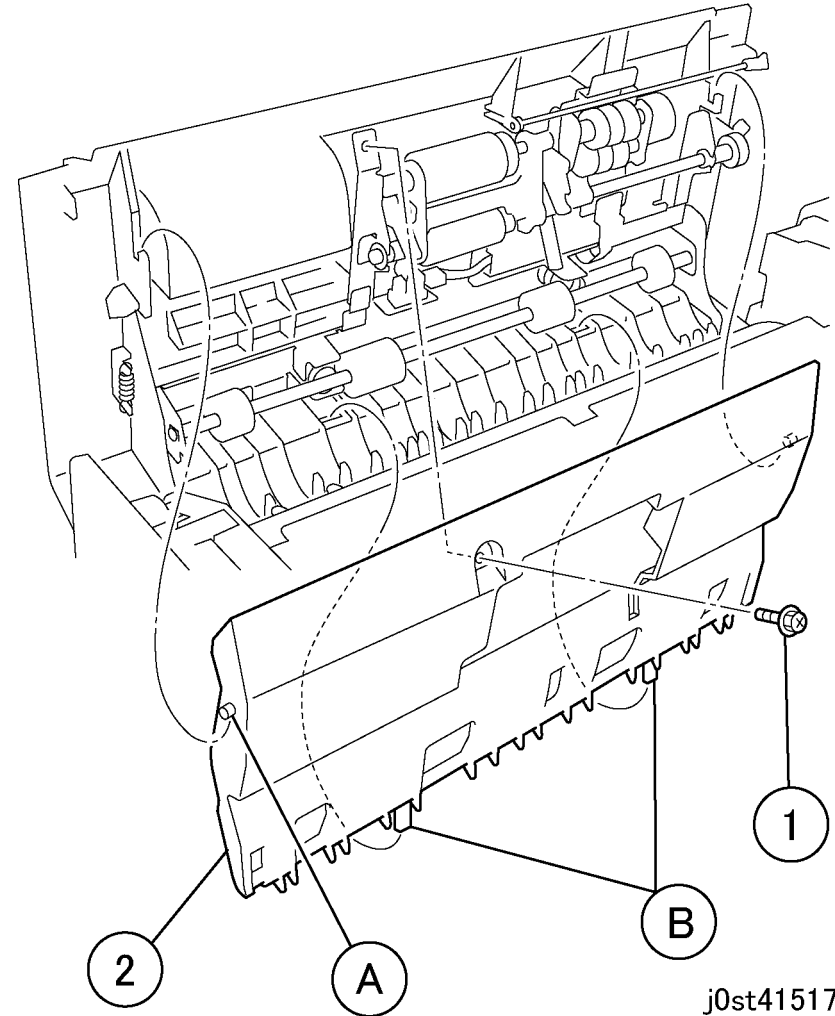

Figure 1 Removing the Feed Upper Chute (j0st41517)
2. Remove the Feed Upper Chute. (Figure 1)